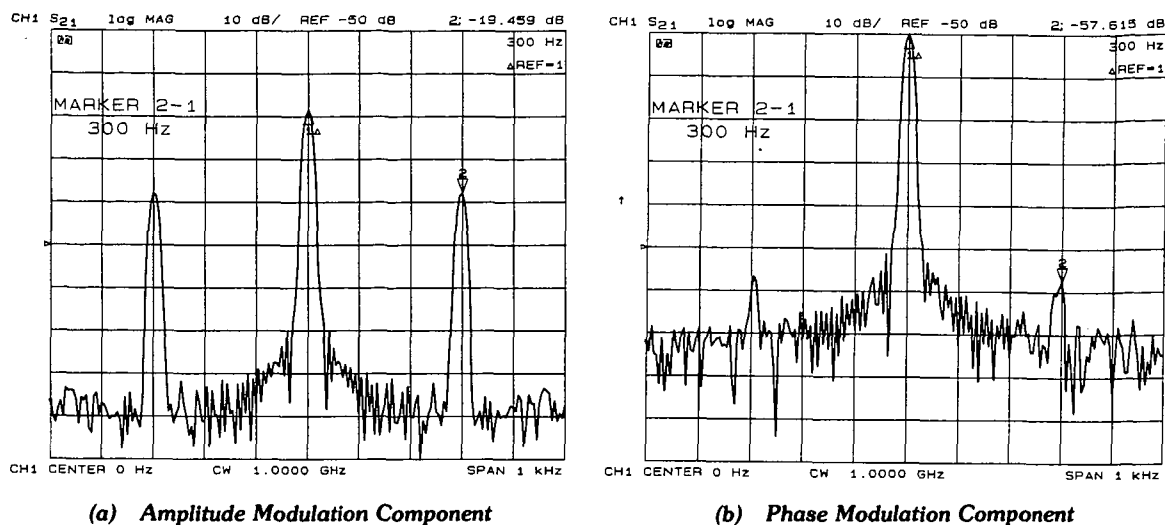

Figure 8-18. Separating the Amplitude and Phase Components of DUT-Induced Modulation
**[AMPLITUDE]** displays only the amplitude modulation (AM), as illustrated in Figure 8-18 (a).
**[PHASE]** displays only the phase modulation (PM), as shown in Figure 8-18 (b).